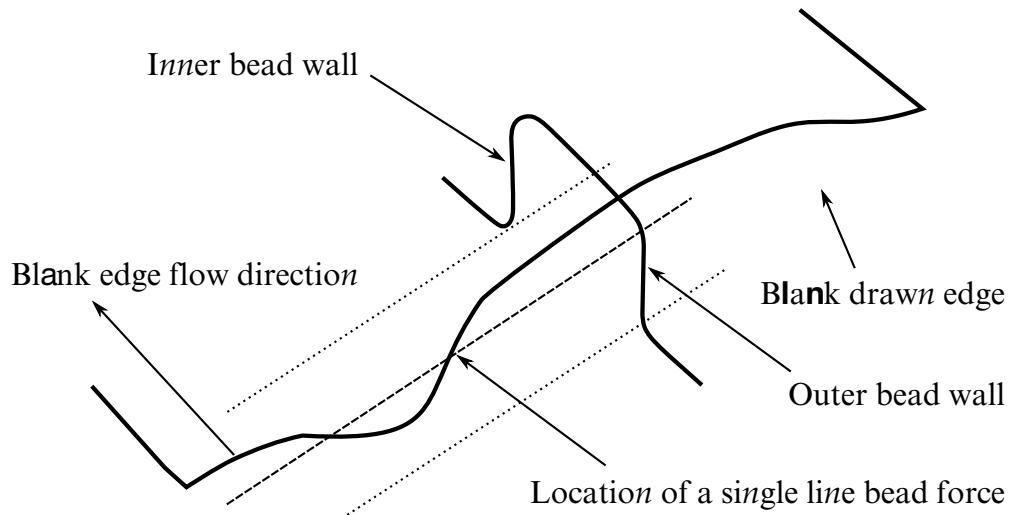

Figure 11-6. A possible scenario of sheet blank edge draw-in condition
1. **Draw Bead Width Correction.** As shown in Figure 11-6, a sheet blank edge often does not cross the draw bead's curve of definition but *does* fall within its width. When the bead is modelled as a 1-dimensional (no width) curve, no forces may be applied to a major portion of the blank. The neglect of width effects leads to excessive blank edge draw-ins resulting in either loose metal in the part or wrinkles on the draw wall or product surface.